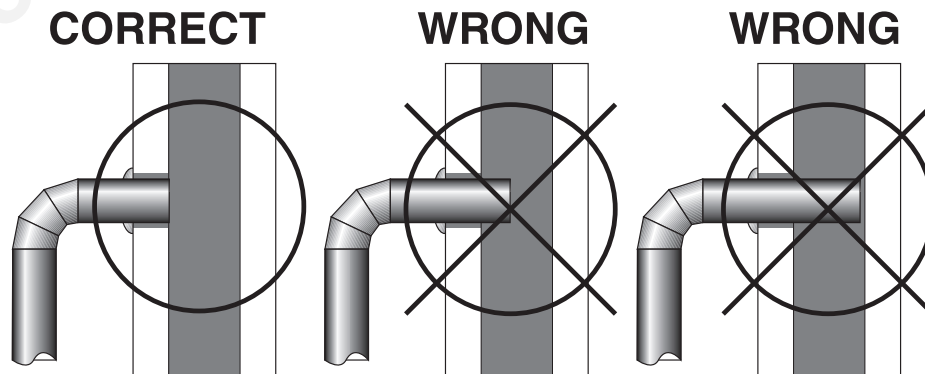

Figure 9 – Stovepipe/Flue Connections
1. The crimped end of the stovepipe fits inside the stove flue collar. Secure with three (3) sheet metal screws. The first section of connector pipe must be single walled to properly attach to the stove collar. Install additional pipe and elbow with the crimped end towards the stove. This will allow any condensation in the flue to run back into the firebox.
4. The pipe cannot extend into the chimney flue (figure 9).
6. It is recommended that no more than two (2) 90° bends be used in the stovepipe installation. The use of more than two 90° bends may decrease the amount of draw and possibly cause smoke spillage. Where possible, use only corrugated (non adjustable) elbows. These provide a better seal.
7. The connector pipe must not pass through an attic or roof space, trusses, closet, or any concealed space, floor, ceiling, wall, or combustible construction. (See Chimney Connector Systems & Clearances, page 13.) A manufactured chimney system listed to UL 103 HT (US)/ULC-S629 (CDN) must be used from the first penetration of ceiling or wall to the chimney cap.
2. Install a fire clay (5/8”/16mm minimum thickness) thimble. Make sure the thimble is flush with the inner surface of the chimney liner and does not protrude into the flue (see figure 9 on page 9).
4. Install the stovepipe into the thimble as far as possible without extending past the flue lining (see figures 9 & 10 on pages 9 & 10).